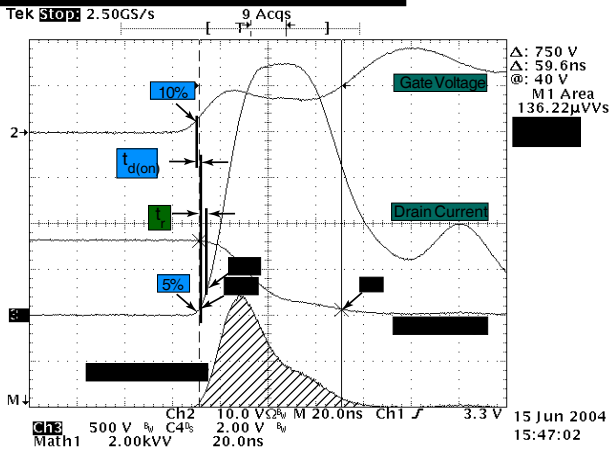

Figure 18, Turn-on Switching Waveforms and Definitions
③ See MIL-STD-750 Method 3471
④ Starting  $T_j = +25^\circ C$ ,  $L = 69.39mH$ ,  $R_G = 25\Omega$ , Peak  $I_L = 3.5A$
⑤  $dv/dt$  numbers reflect the limitations of the test circuit rather than the device itself.  $I_S \leq -I_D 3.5A$   $di/dt \leq 700A/\mu s$   $V_R \leq 1200$   $T_j \leq 150^\circ C$
⑥  $E_{on}$  includes diode reverse recovery. See figures 18, 20.